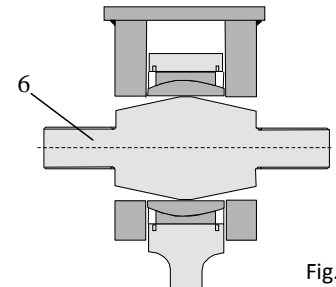

Fig. 1
- 1.2 Align the bolt hole. Use a ruler all around inn the hole to be sure the centre link and both support are on line (see Fig.1). **Do not use a hammer directly on the bolt, you may damage the threads.**
- 2.1 Unscrew all the parts on the Bondura bolt and insert the bolt (6) into the link. The conical end of the bolt should be in line with the outside of the attachment as shown on Fig. 1.